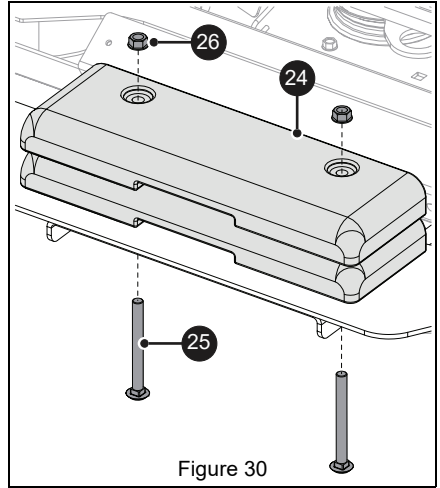

Figure 30
9. Secure two cast iron weights (item 24) to front weight assembly using two round head square neck bolts (item 25) and two top locking flange nuts (item 26). Insert bolts from bottom of weight plate bracket. See Figure 30.